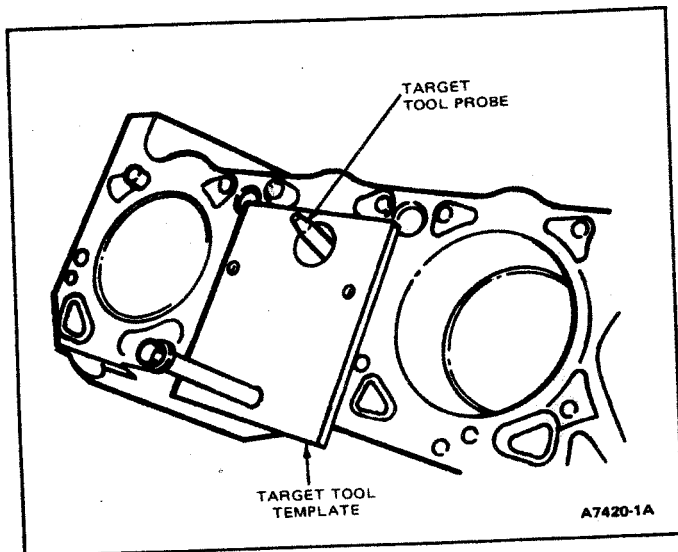

FIG. 89 Piston Cooling Jet Target Tool
3. Verify cooling jet alignment using Rotunda Model 014-00311 (Fig. 89). Pointer must locate in target hole. If not, slightly bend cooling jet tube until pointer is properly aligned.